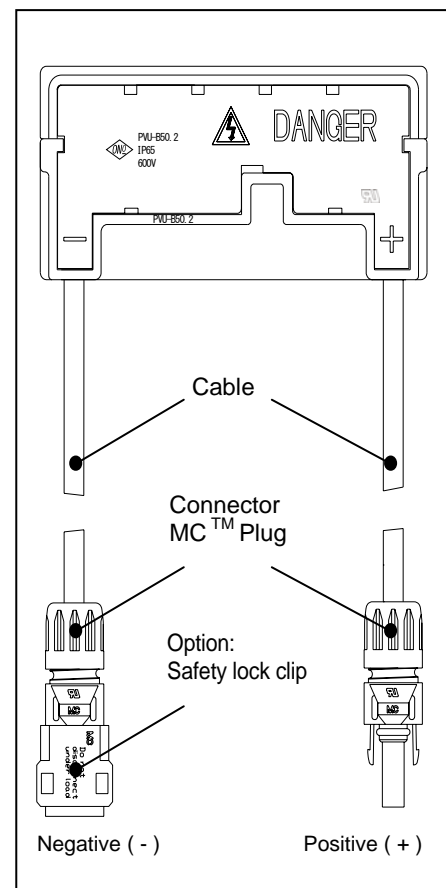

Figure 4 Configuration of Junction Box
- Each terminal is dedicated to one polarity with the polarity symbols engraved onto the body of the junction box (see Figure 4)